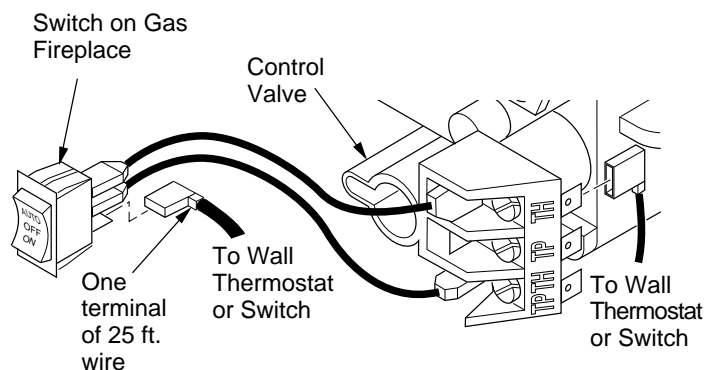

Figure 41 - Connecting Wire Terminals
1. Connect one terminal of 25 ft. wire to bottom contact of switch (see Figure 41).
2. Connect remaining wire terminal to the "TH" terminal on the control valve. Make sure that wire terminals are in the positions on your unit as pictured in Figure 41. If wires are not "crossed" the thermostat will not work.
1. Connect one terminal of 25 ft. wire to bottom contact of switch (see Figure 41, page 21).
2. Connect remaining wire terminal to the "TH" terminal on the control valve. Make sure that wire terminals are in the positions on your unit as pictured in Figure 41, page 21. If wires are not "crossed" the thermostat will not work.